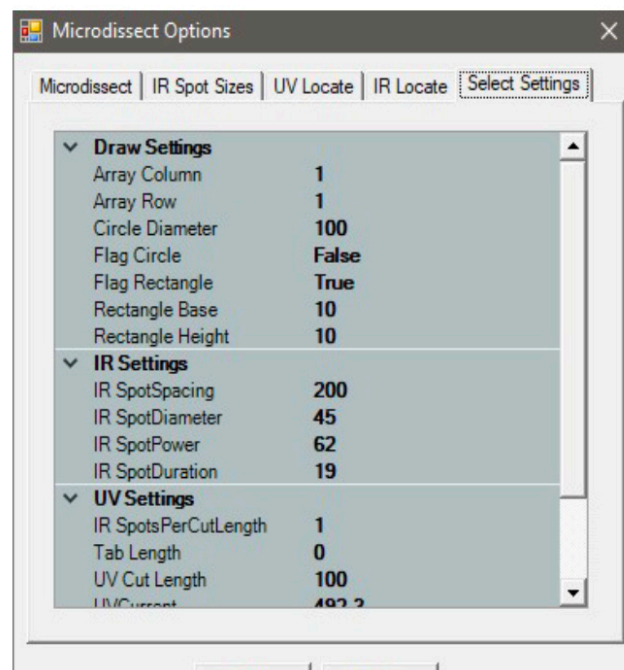

Figure 29
2. Click the Select Settings tab (see Figure 29).